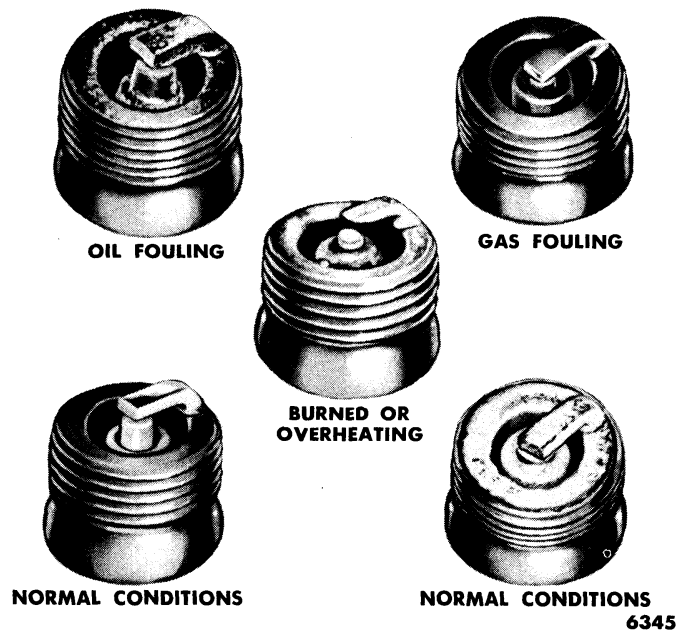

Fig. 5—Visual Inspection—Spark Plugs
(2) **CLEANING AND INSPECTION.** Examine the firing ends of the plugs, noting the type of deposits and the degree of electrode erosion. The various types of spark plug fouling and the normal condition of the spark plug after usage is shown in fig. 5.
Oil fouling (fig. 5) is usually identified by wet, sludgy deposits. These are traceable to excessive oil entering the combustion chamber through worn rings and pistons, excessive clearance between the valve guides and stems, or worn or loose bearings.
Gas fouling (fig. 5) is usually identified by dry, black, fluffy deposits which result from incomplete combustion. Too rich a fuel-air mixture can cause incomplete burning. In addition, a defective coil, defective breaker points, or a defective ignition cable can reduce the voltage supplied to the spark plug and cause mis-firing.
Burned or overheated spark plugs (fig. 5) are usually identified by a white, burned, or blistered insulator nose and badly eroded electrodes. Inefficient engine cooling, improper ignition timing, or the wrong type of fuel can cause general overheating.
Normal conditions (fig. 5 left) where regular or unleaded gasolines have been used are usually identified by a rusty-brown to grayish-tan, powdery deposit and minor electrode erosion, indicating proper ignition and combustion conditions.
Normal conditions (fig. 5 right) where highly leaded gasolines have been used are usually identified by white, powdery deposits. If the spark plugs are cleaned at regular intervals and normal service conditions are encountered, these deposits have little or no effect on plug performance. However, prolonged high-speed, high load operation will fuse these deposits to form a yellowish glaze. At high temperatures, this glaze may be conductive, resulting in spark plug "missing" or fouling.